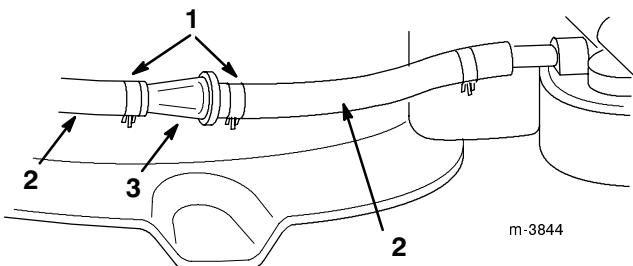

Figure 33
Replace the fuel filter after every 100 operating hours or yearly. The best time to replace the fuel filter (Fig. 33) is when the fuel tank is empty. Never install a dirty fuel filter that has been removed from the fuel line.
1. Squeeze the ends of the hose clamps together and slide them away from the fuel filter (Fig. 33).